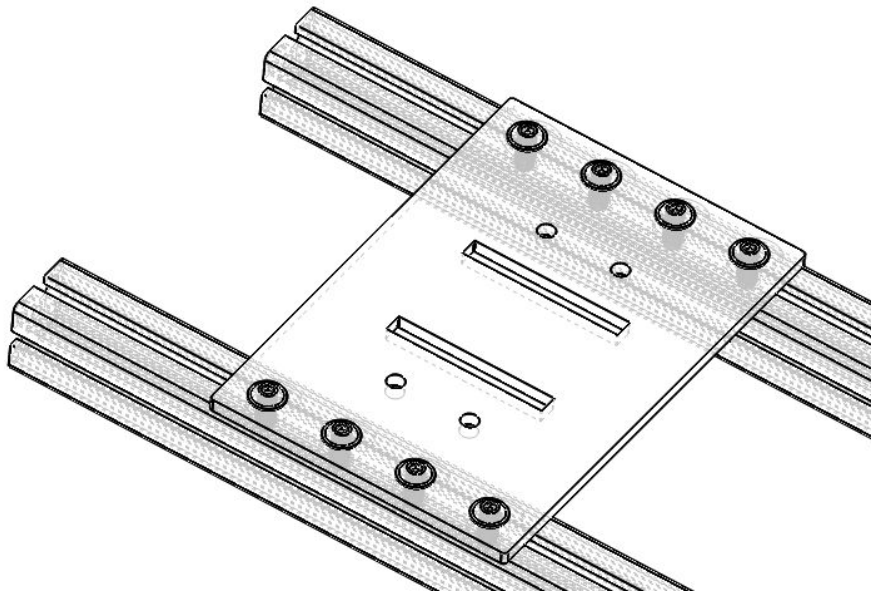

Fig. 3.7: Fixture base plate (#KGTP) fixed on the two beam (#HJXQ) with end feed fasteners
- Put two fixture plates (#KGTP) on the top of the two beams and align them with eight 8.50mm holes of each plate with the end-feed fastener parts holes. (See Fig. 3.7)